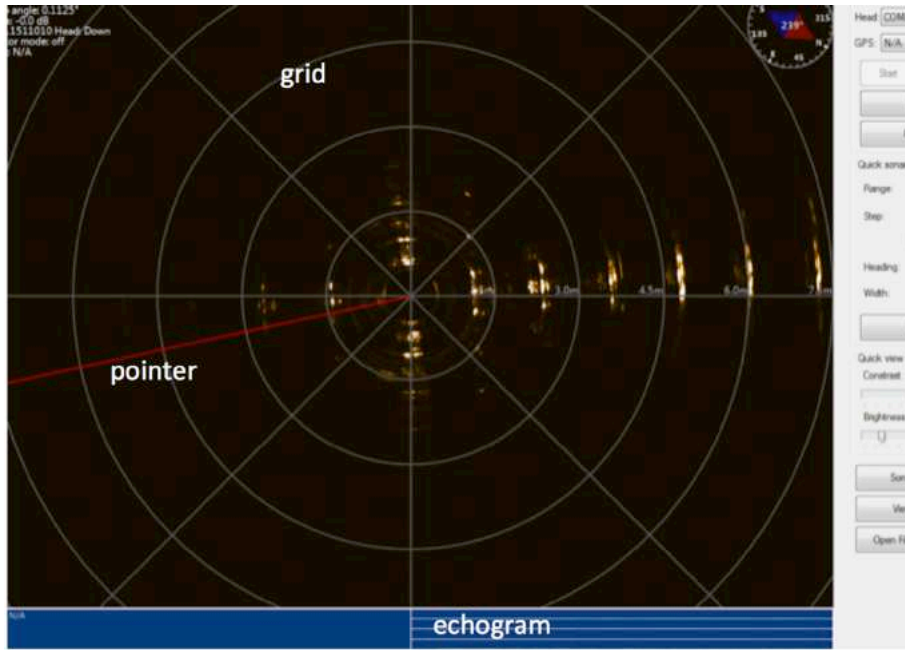

Fig28. Grid & Pointer & Echogram
- Right button gives two options (Screenshot & Ruler), Fig28